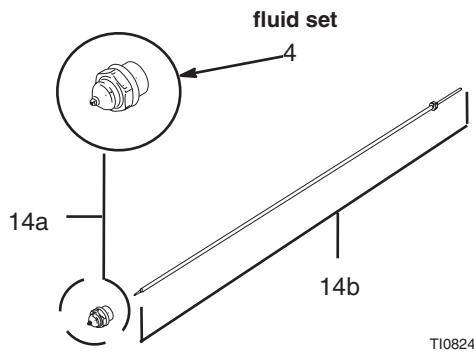

FIG. 9
Fluid sets include a nozzle (14a) o-ring (4) and needle assembly (14b). Fig 9.